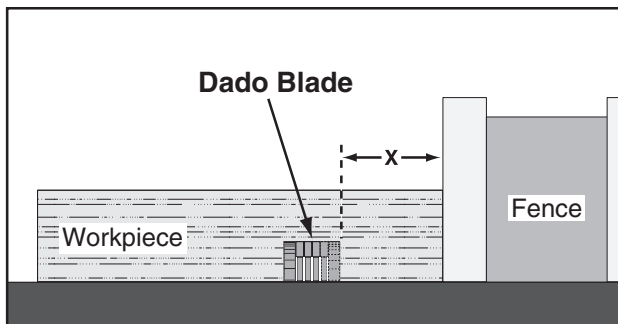

Figure 78. Example of a dado cut with a dado blade.
Commonly used in furniture joinery, a dado is a straight channel cut in the face of the workpiece. Dadoes can be cut using either a dedicated dado blade or a standard saw blade. **Figure 78** shows a cutaway view of a dado cut being made with a dado blade.
2. Adjust the distance between the fence and the inside edge of the blade, as shown in **Figure 78**, to dado the length of a workpiece.